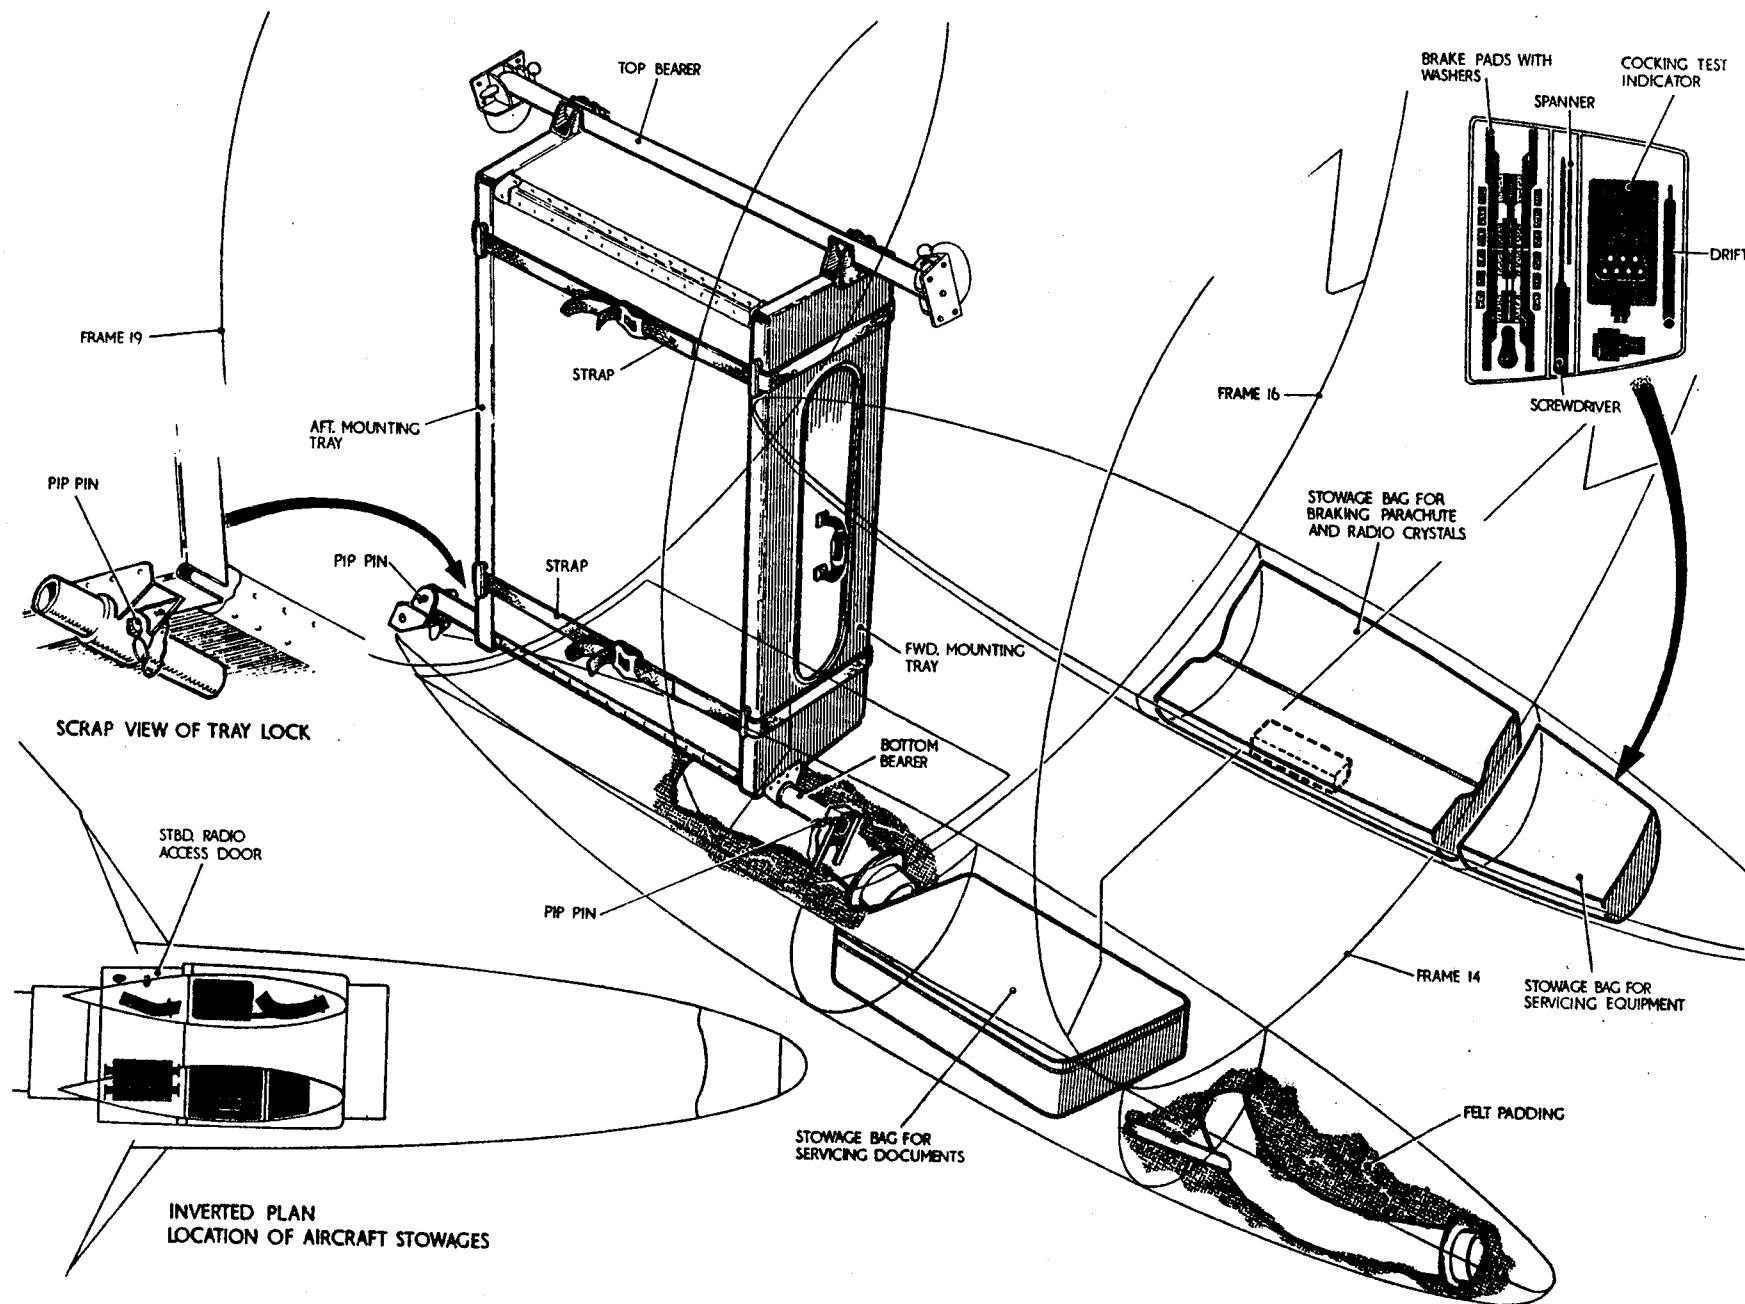

Fig.1 Stowing luggage, spare braking parachute and servicing documents etc.
**Stowing luggage, spare braking parachute, servicing equipment and documents (fig. 1 and 2)**
- (5) Fit the top bearer, Part No. A.258429 between the mounting brackets on frames 16 and 19 and secure with the pip-pins, Part No. A.413 attached to the mounting brackets (fig. 1).
(6) Fit the forward and aft mounting trays, Part No. C.258425 and C.258426 to the suitcase and secure firmly with the two strap assemblies, Part No. B.258427, ensuring that the straps pass through the guides on the mounting trays.
(7) Fit the bottom bearer, Part No. B.258428, through the mounting rings at the bottom of the mounting trays and secure the aft mounting tray to the bottom bearer with pip-pin, Part No. A.518.
(8) Offer up the mounting tray, suitcase and bearer assembly into the radio bay and locate the top locating channels about the top bearer and fit the aft end of the bottom bearer into the attachment bracket for the outboard case chute at frame 19 and secure with the pip-pin. At the same time feed the forward end of the bottom bearer into the mounting bracket on the aft face of the gun package, and secure with the pip-pin.